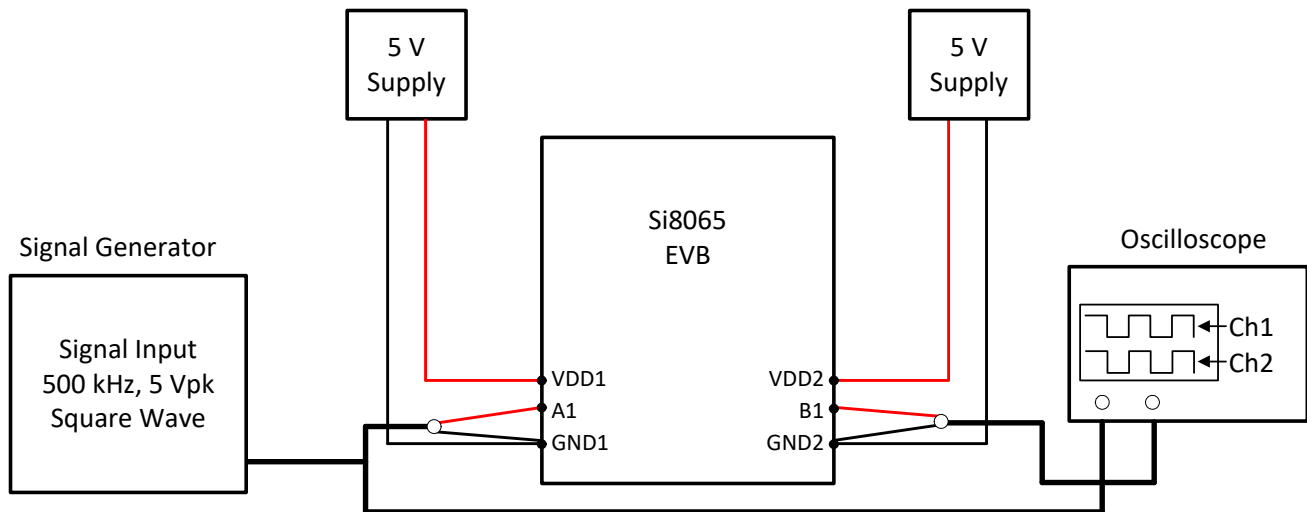
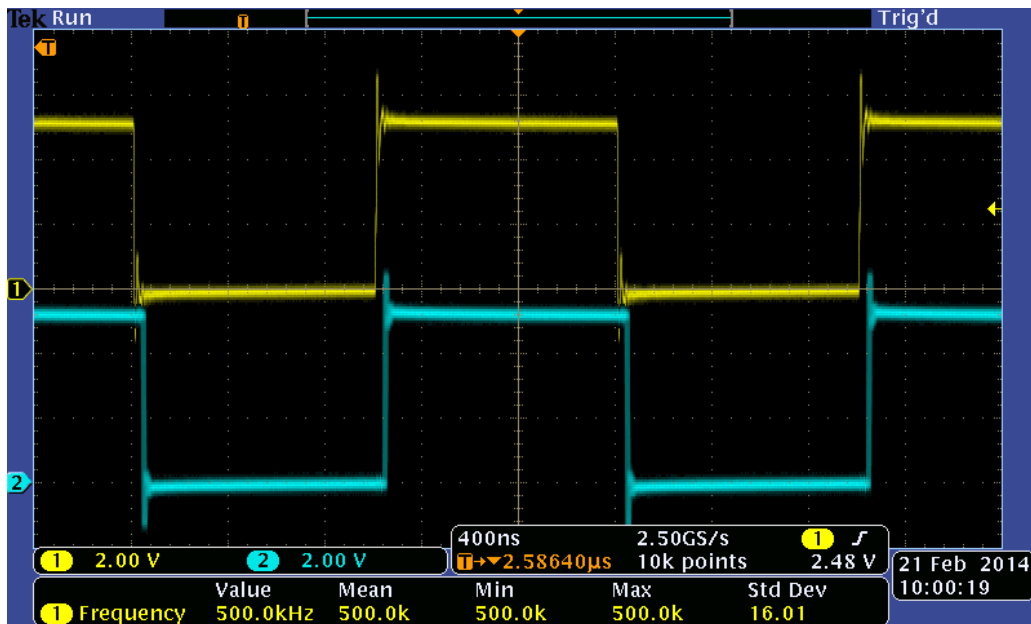
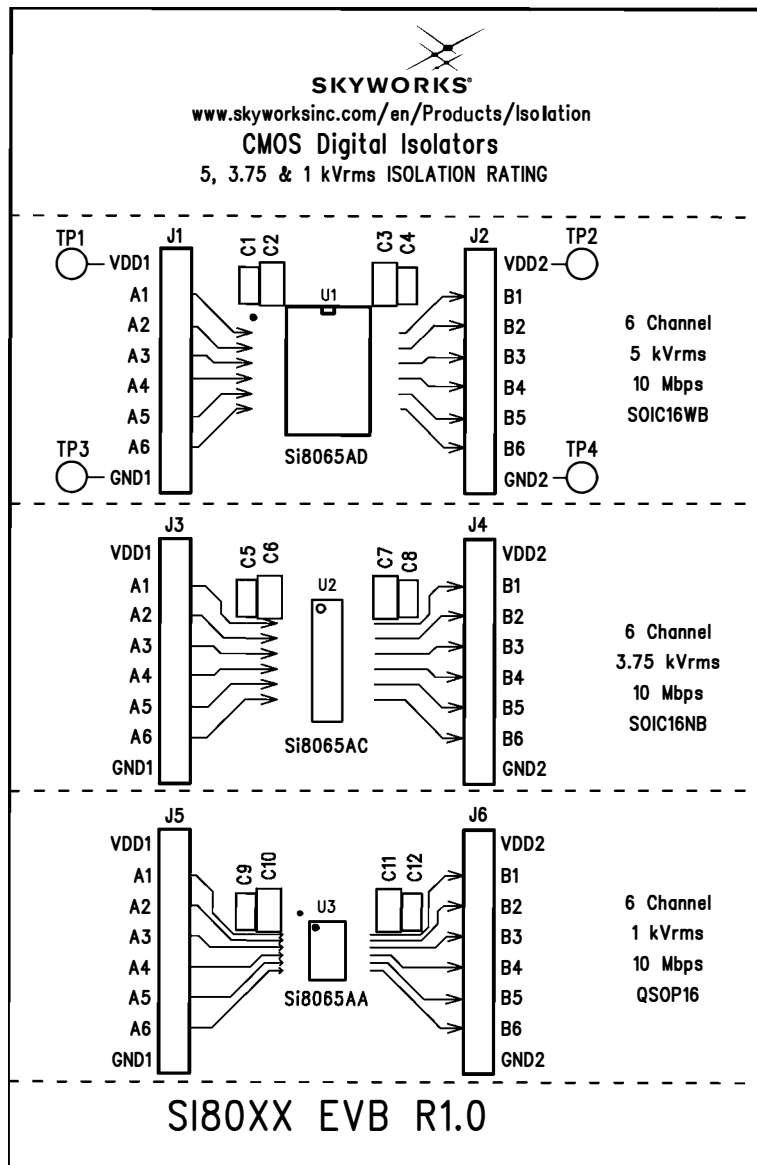
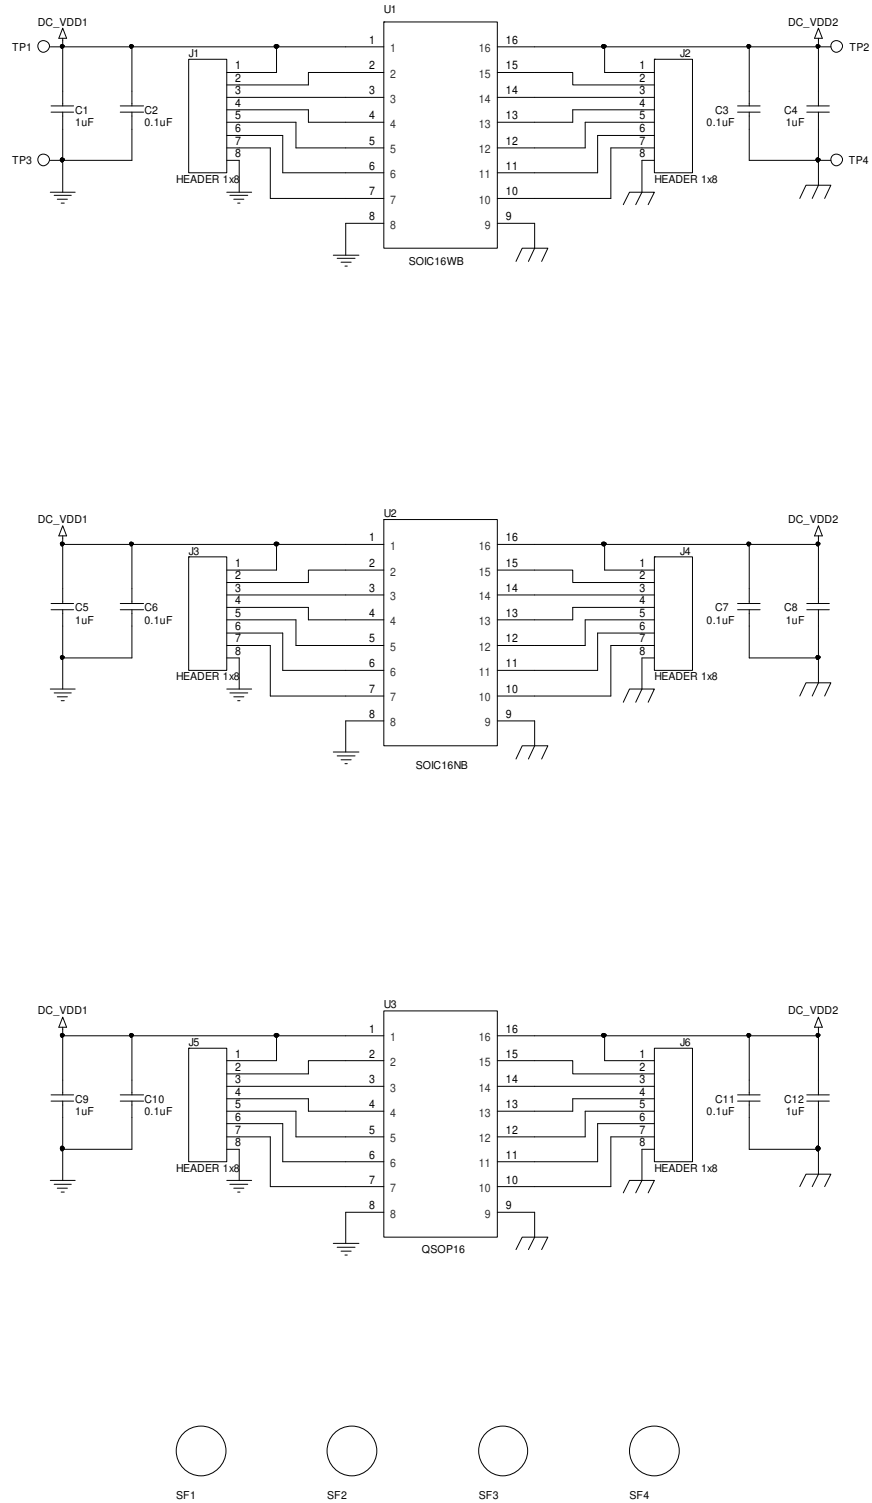

Figure 2. Summary Diagram and Demo Setup
Figure 3. Oscilloscope Display of Input and Output
Figure 4. Si80xx DIP8 Evaluation Board Silkscreen
Figure 5. Si80xx Evaluation Board Schematic
Figure 2 illustrates the connection diagram used to demonstrate the Si80xx-EVB. This demo transmits a 500 kHz (5 V peak, 50 percent duty cycle) square wave through the isolator to its output. In this example, VDD1 and VDD2 are powered by 5 V supplies. Figure 3 shows a scope shot of CH1 (input) and CH2 (output). Note that if a user wants to evaluate a digital isolator other than the ones pre-populated, this can be accomplished by removing the installed device and replacing it with the desired footprint-compatible isolator device.
To run the demo, follow the instructions below. Review Figure 2 and Figure 5 if necessary.
5. Adjust the level indicator for all channels to properly view each channel as shown in Figure 3.
A 500 kHz square wave should display on Channel 1 of the scope for the input and a 5 V delayed version of this square wave should display the output on Channel 2, as shown in Figure 3. This concludes the basic demo.
The board is designed to be powered from two separate supplies VDD1, VDD2 that can be independently varied from 3.15 to 5.5 V. Figure 4 shows a silkscreen overview of the board and Figure 5 shows the board schematic.